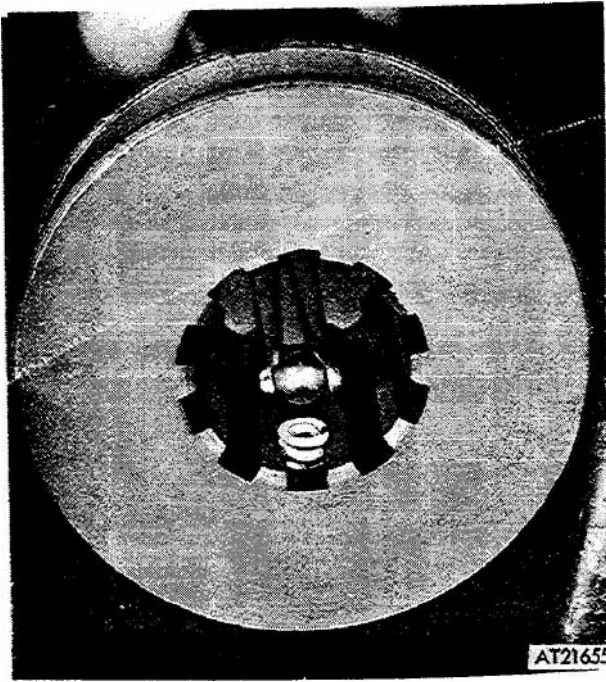
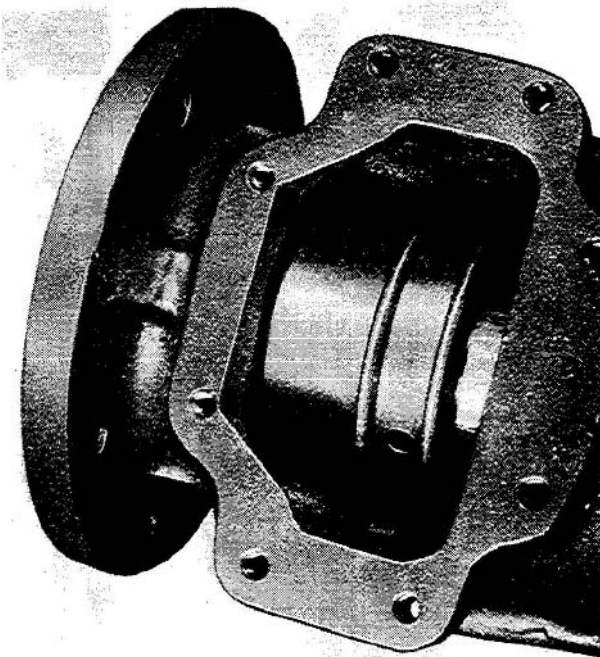

Figure 4-31. Installing ball in sprint.
Figure 4-32. Proper sliding clutch installation.
(3) Install spacer (15, fig 4-26) on shaft. Position spring (18) and ball (19) in sliding clutch (17) as shown in figure 4-31. Compress spring in ball and slide clutch on output shaft (13) as shown in figure 4-32.
(1) Disconnect bracket (27, fig 4-31) by removing screw (29), washer (28), lock washer (26), and nut (25).